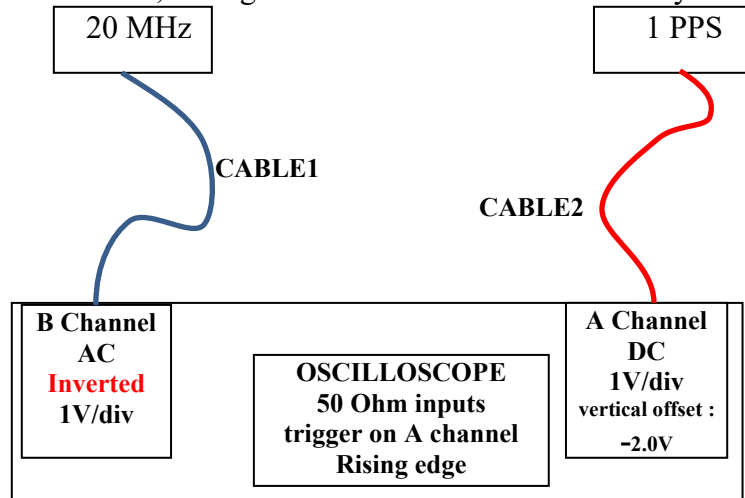

Figure 3: First setup for measurement 1)
- a. Set-up your oscilloscope as shown in Figure 3. The trigger level is not critical. Use a time base of 10ns/div, the signals will then be easier to identify.